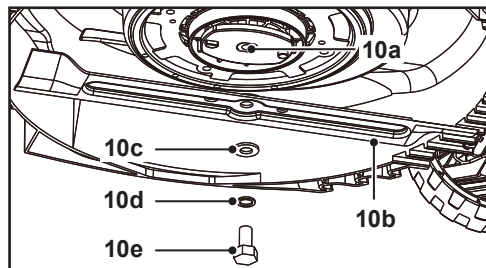

Fig. 16
1. Keep the underbody and cutting blade (10b) clean and free of debris. Remove clippings from the rear discharge chute (5).
4. Loosen the hex bolt (10e) anti-clockwise using a suitable wrench (Size 16 mm) and remove it together with the lock washer (10d), washer (10c) and the cutting blade (10b) (Fig. 16).